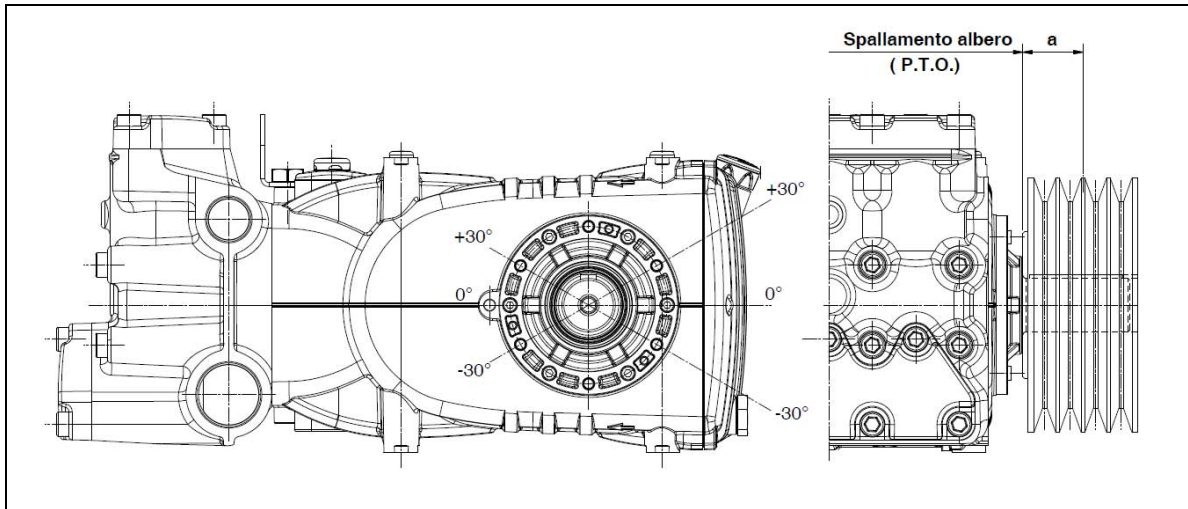

fig. 10
The radial load on the shaft must not exceed 7500 N (value necessary for Layout definition). The transmission is considered adequate if the load is applied to a maximum distance $a=40$ mm from the shaft shoulder (P.T.O) as shown in fig. 10.
- b) Use high performance belts – for example **XPB** instead of **SPB** – as a lower quantity of belts for the same transmitted power may be necessary and a consequent shorter resulting distance compared to the shaft shoulder (P.T.O). “a” of fig. 10